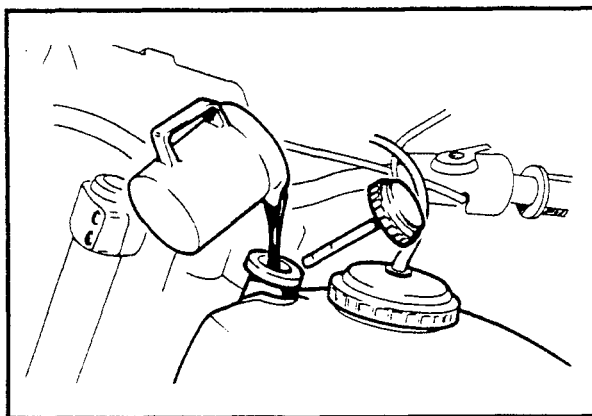

Figure 2-130. Oil Replacement
8. See Figure 2-130. Fill the reservoir with oil until the level is between the upper and lower marks on the dipstick.